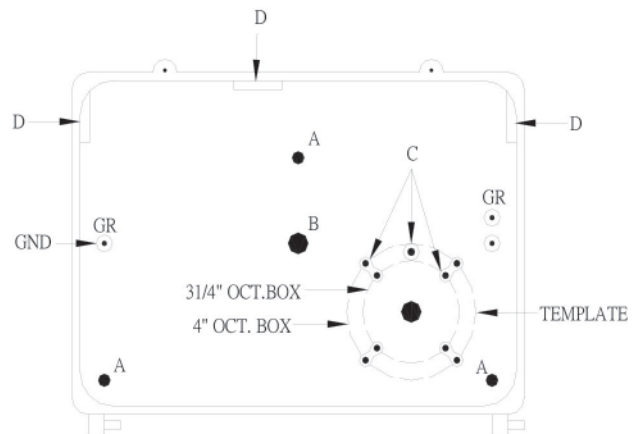

Figure 2.
- Inspect the 3 mounting hole locations. (they are item A on fig. 2) and ensure that there are no components over them.